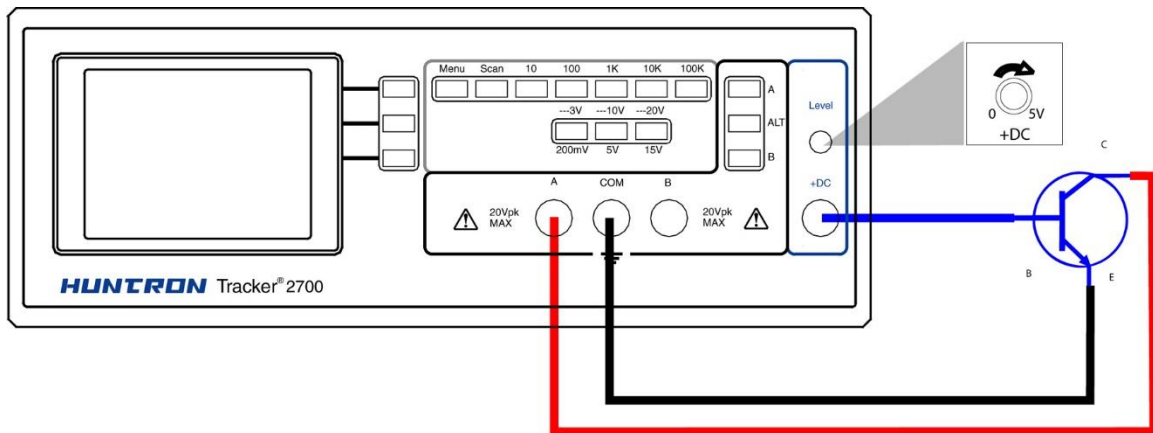

Figure 6-3 Testing a transistor with a DC Voltage Source (Tracker 2700 shown)
Trackers with a DC Voltage Source or Pulse Generator can be used to assist in testing transistor operation. Functioning as a basic curve tracer, voltage is applied to the base of the device while monitoring the collector-emitter signature shown on the Tracker display. The constant current signature produced is similar to those produced by a transistor curve tracer except that only one curve is shown instead of a family of curves. This technique can be useful for testing function and matching transistor gain. Figure 6-3 shows the test circuit for a NPN transistor using the DC voltage source to drive the base.
1. Setup the test circuit as shown in figure 6-3 connecting the DC voltage source or Pulse Generator to the base of Q2, channel A to the emitter and common to the collector.